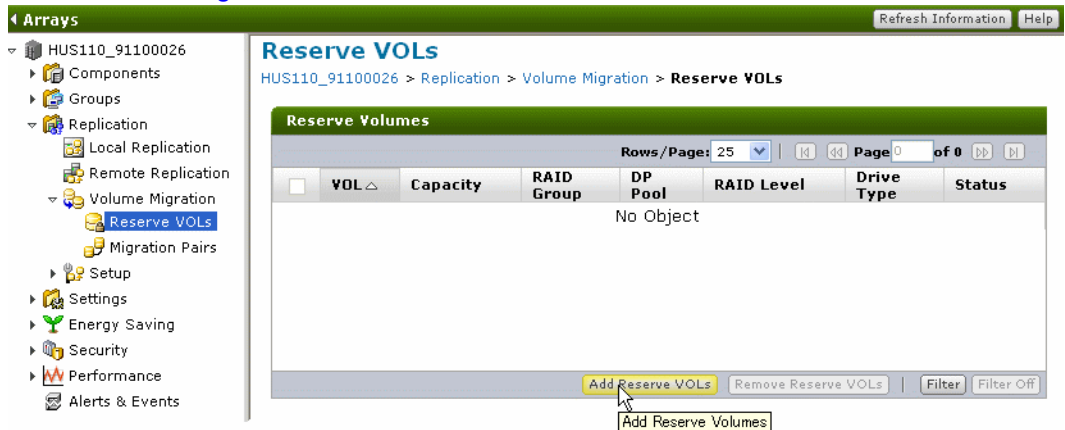

Figure 11-15: Reserve Volumes window
- Select the **Reserve Volumes** icon in the Volume Migration tree view as shown in Figure 11-15.